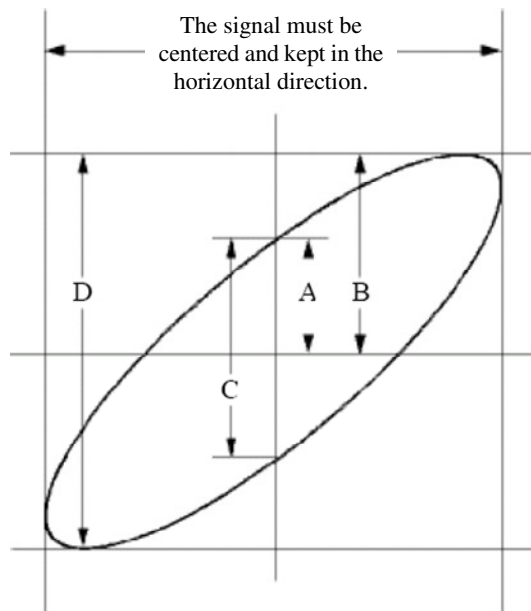

Figure 6-6 Lissajous Graph
- (1) Set the probe menu attenuation coefficient for **10X** and that of the switch in the probe for **10X** (see "How to Set the Probe Attenuation Coefficient" on P16).
- (2) Connect the probe of channel 1 to the input of the network and that of Channel 2 to the output of the network.
- (3) Push the **Autoset** button, with the oscilloscope turning on the signals of the two channels and displaying them in the screen.
- (4) Turn the **Vertical Scale** knob, making the amplitudes of two signals equal in the rough.
- (5) Push the **Acquire** button to display the right menu.
- (6) In the right menu, select **XY Mode** as **ON**. The oscilloscope will display the input and terminal characteristics of the network in the Lissajous graph form.
- (7) Turn the **Vertical Scale** and Vertical Position knobs, optimizing the waveform.
- (8) With the elliptical oscillogram method adopted, observe and calculate the phase difference (see Figure 6-6).